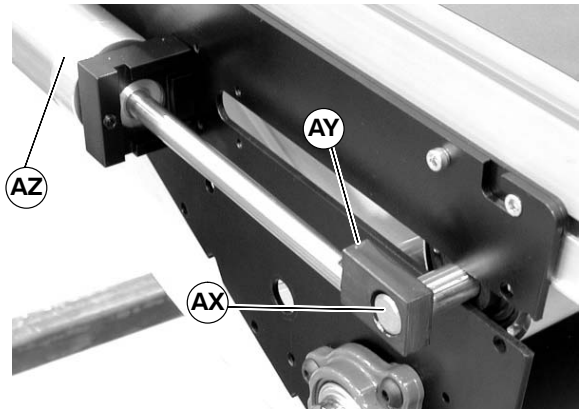

Figure 26
9. Push shaft (AX of Figure 26) through block (AY) on opposite side of center drive, slide block toward air cylinder (AZ).